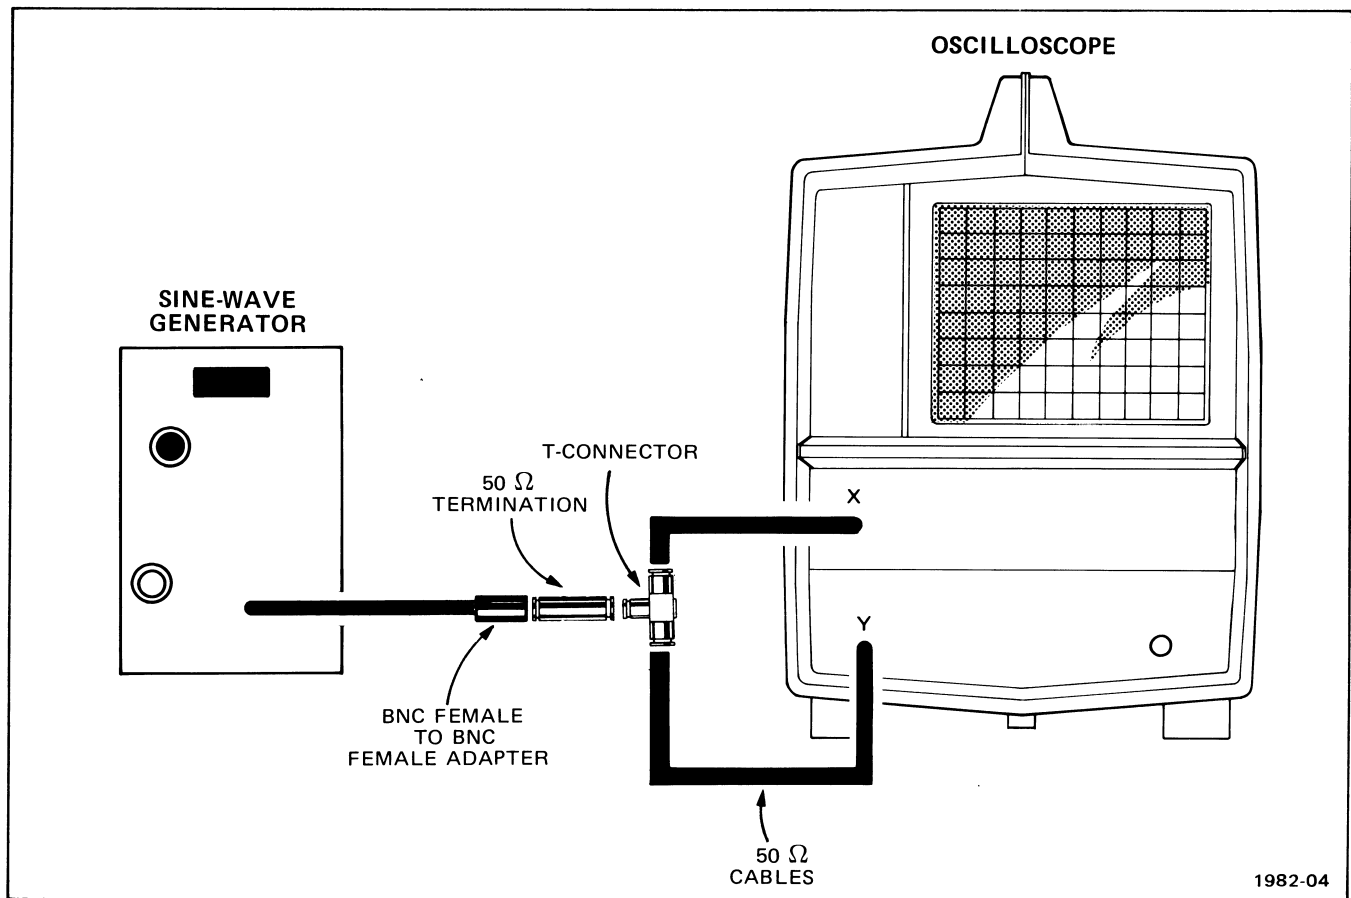

Fig. 3-3. X Gain, Triggering, and Z-axis input check test setup.
b. Connect test equipment as shown in Fig. 3-3 and set generator output amplitude to .5 V, and frequency to 50 kHz.
- a. Connect test equipment as shown in Fig. 3-3.